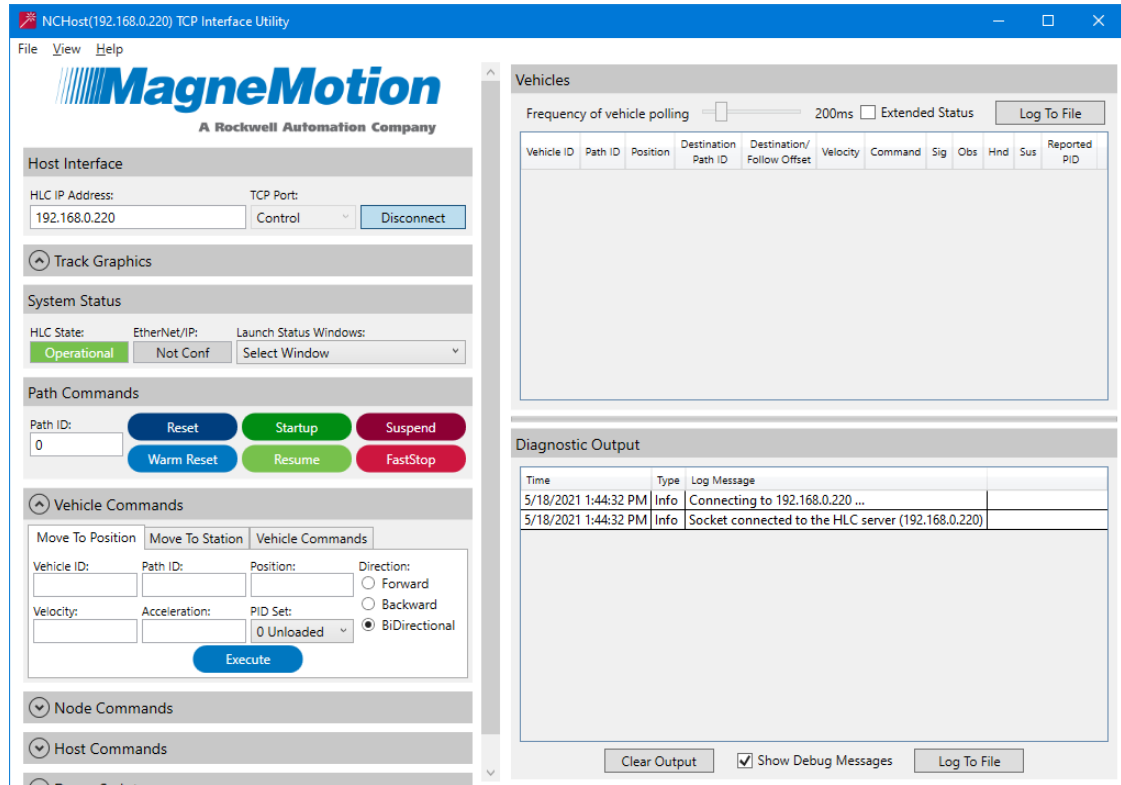
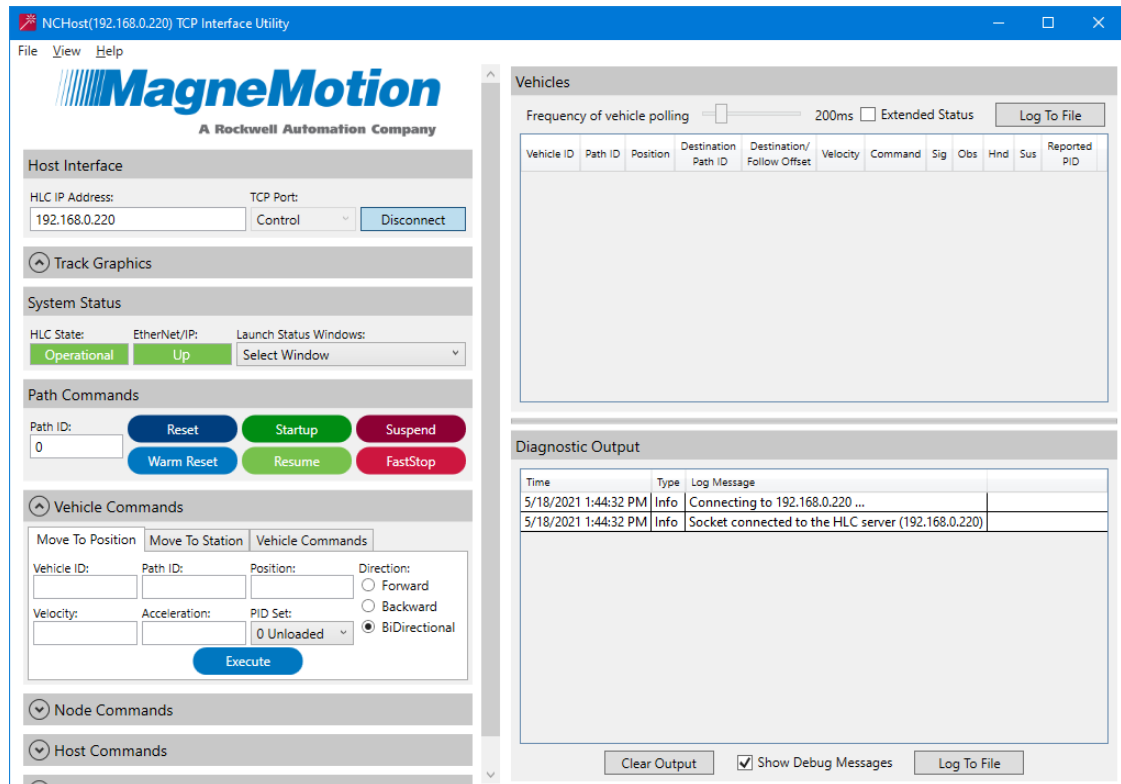

Figure 2-11: System Status Section Showing HLC Connected
Figure 2-12: System Status Section Showing HLC with Active EtherNet/IP Connection
*If the connection to the host controller is TCP/IP, the **EtherNet/IP** field displays Not Conf (see Figure 2-11). If the connection to the host controller is EtherNet/IPTM, the **EtherNet/IP** field displays the status of the EtherNet/IP connection between the host controller and the HLC (see Figure 2-12).*
*If the connection to the host controller is TCP/IP, the **EtherNet/IP** field displays **Not Conf** (see Figure 2-11). If the connection to the host controller is EtherNet/IP™, the **EtherNet/IP** field displays the status of the EtherNet/IP connection between the host controller and the HLC (see Figure 2-12).*